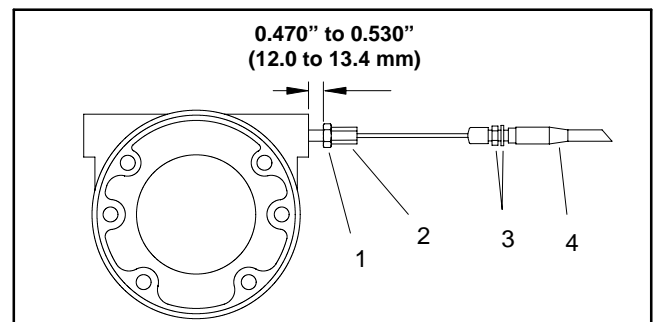

Figure 4
9. Check and adjust brake cables for proper brake operation. If necessary, adjust brake cable jam nuts at frame bracket so that pull rod jam nut is positioned from 0.470" to 0.530" (12.0 to 13.4 mm) from brake casting surface when brakes are disengaged (Fig. 4).